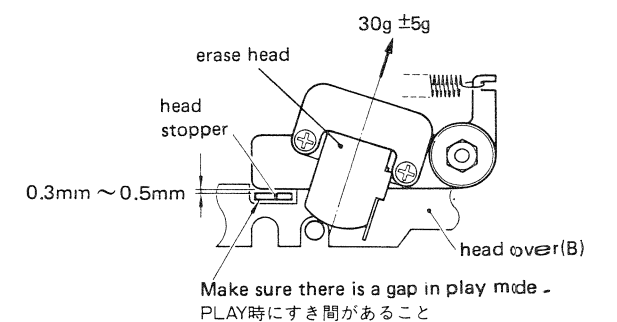

Fig. 5-13
6. The clearance between the head base plate and the head stopper should be 0.3 mm ~ 0.5 mm, as shown in Fig. 5-13, when the erase head is touching the pad holder assembly during playback.